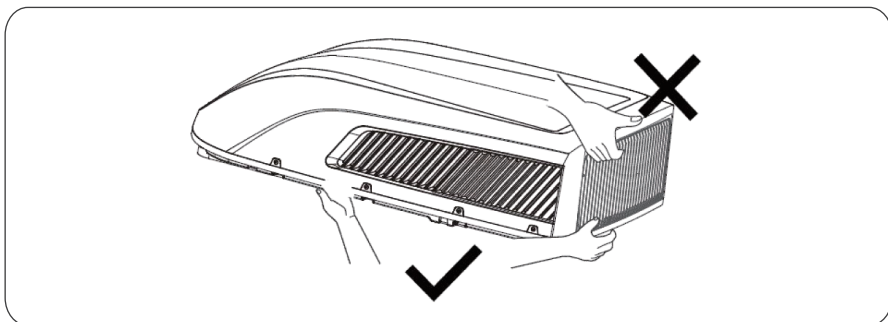

Figure 2
- Carefully lift the outdoor unit with the package on top of the vehicle. Do not use the outer plastic shroud for lifting. Do not lift by the air outlet grille at the back of the outdoor case (see Figure 2).